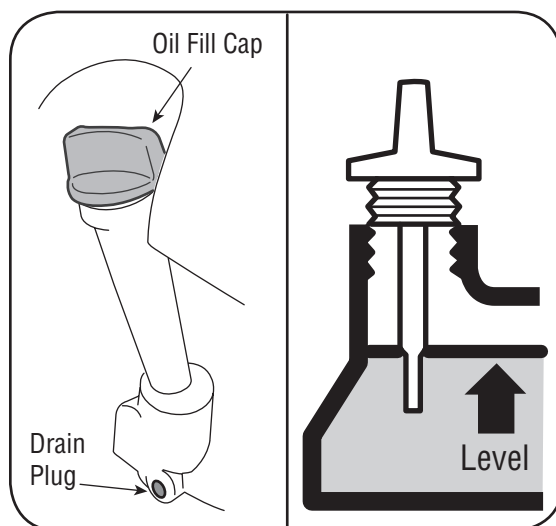

Figure 10-1: Changing the oil.
1. Remove oil fill cap and drain oil by either removing drain plug or turning mower on its side (air cleaner side up) and allowing oil to drain into a suitable container, Figure 10-1.
3. Refill with the recommended oil (see Operation section) and check the oil level, Figure 10-1.